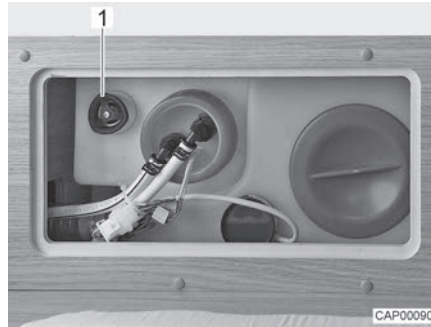

Fig. 142 Water tank with rotary handle
- Turn the rotary handle (Fig. 142,1) on the water tank in an anticlockwise direction as far as possible beyond the resistance to fully open the drainage opening.